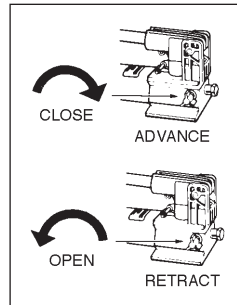

Figure 7
- To advance cylinder plunger, turn pump release valve clockwise as illustrated in Figure 7 and close **finger tight**.
- To retract cylinder plunger, turn release valve counterclockwise as illustrated in Figure 7.